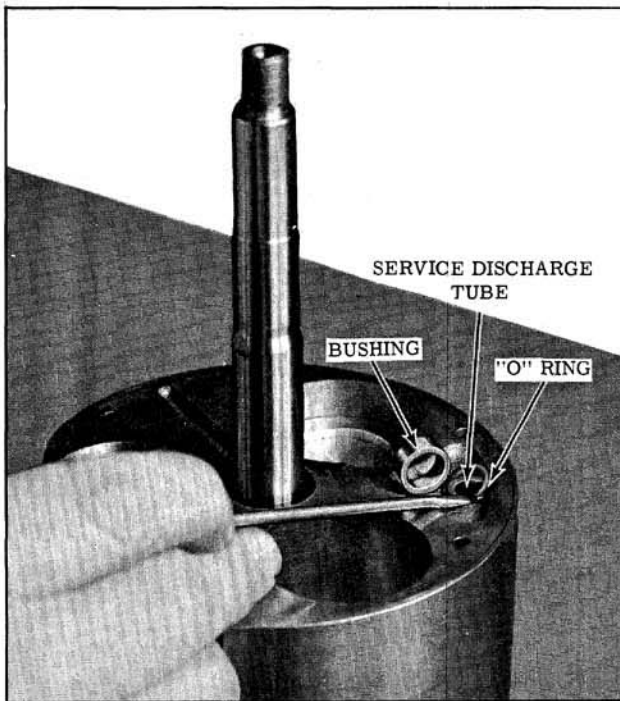

Fig. 14-135 Installing "O" Ring and Bushing
25. Install "O" ring and bushing over discharge tube. (Fig. 14-135)